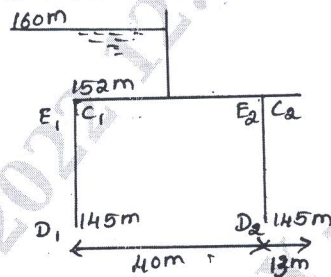

Fig.Q5(b)
- b. What is Bligh's theory? Using Khosla's theory, determine the pressure at C_1 with interference correction. [Refer Fig.Q5(b)]